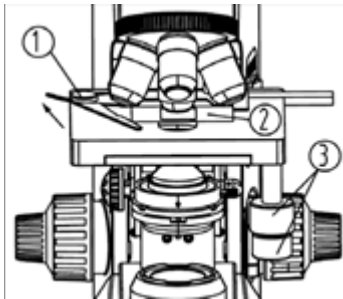

Fig. 8 Slide Holder
Push back on the finger assembly ① and place the slide ② on the mechanical stage (Fig.8). Release finger assembly carefully not to damage the slide. Make sure the cover glass is on top of the slide. Use the mechanical stage controls ③ to center the slide under an objective.